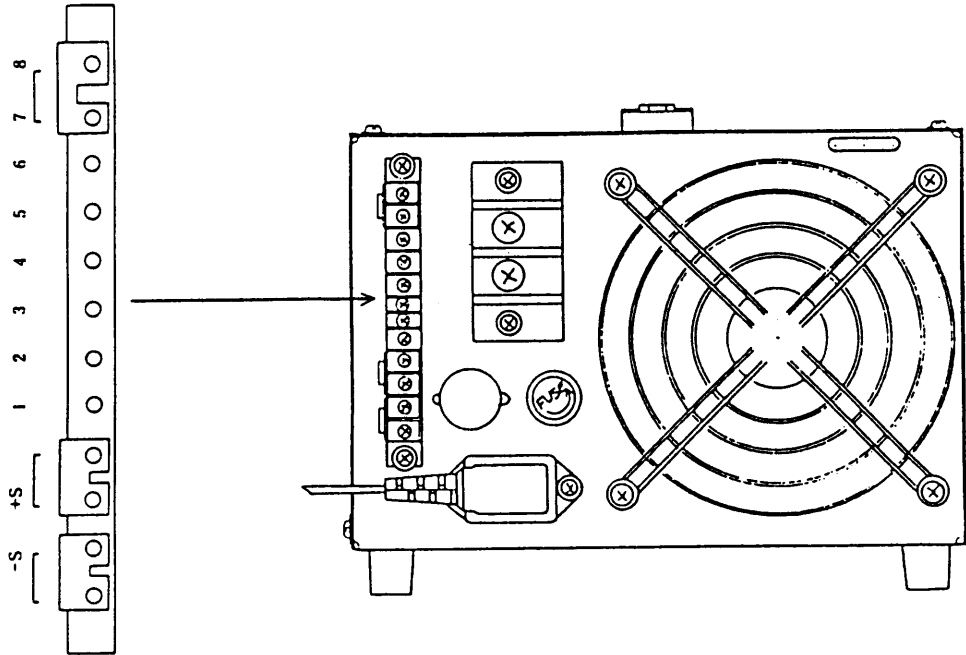

Figure 2-7-1
- (1) The input circuit of the voltmeter is connected to the +S and -S terminals of the control terminal block on the rear panel. See Figure 2-7-1
- (2) Disconnect the shorting pieces (22) and connect the input circuit of the voltmeter directly to the output circuit of the power source to be tested.